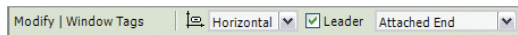

FIGURE 11.30 Removing the leader from the Window tag
3. The tag has a leader line associated with it. You want to move the tag but also remove the leader line. To do so, highlight the tag, and, in the Options Bar, deselect the Leader check box that is shown checked (Figure 11.30). Doing so lets you drag the tag down — leader free — and place it in the crop region.